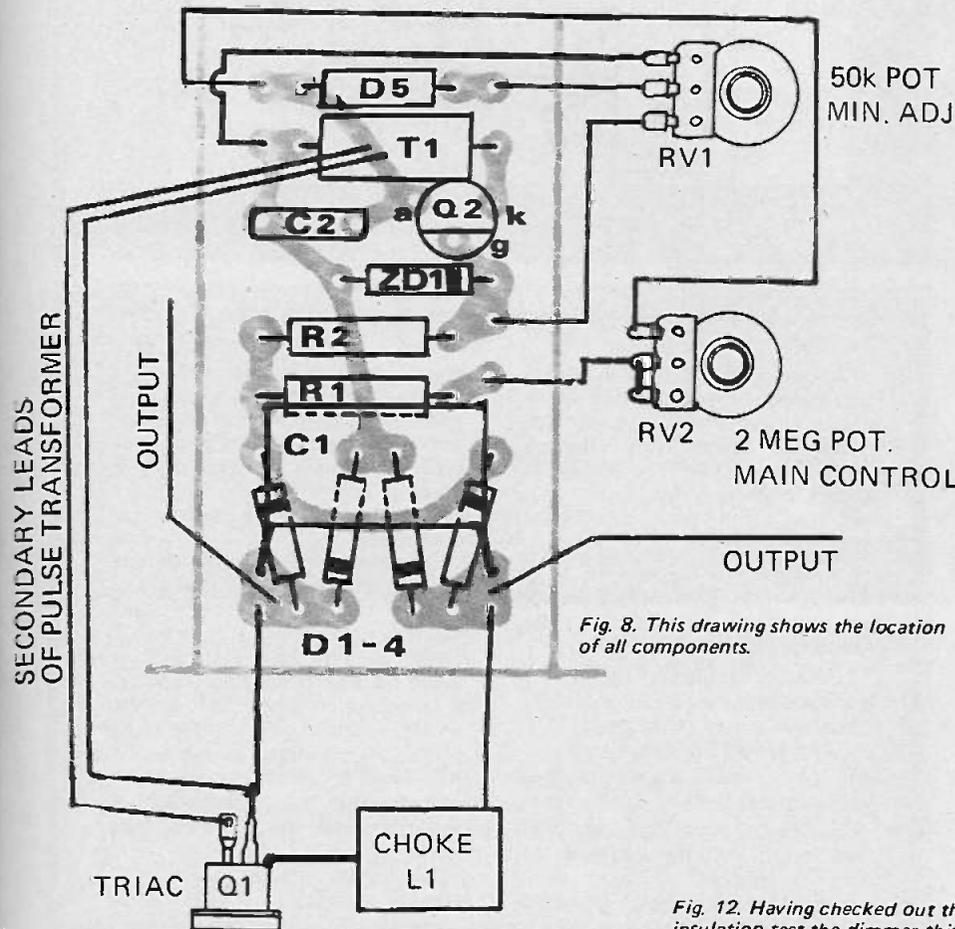

Fig. 8. This drawing shows the location of all components.
5. The components can now be soldered onto the printed circuit board. Locate transistor Q2 so that it is about $\frac{3}{16}$ " off the board and transformer T1 so that it is about $\frac{1}{8}$ " off the board. Capacitor C1 is mounted flat on top of the diodes. Fig. 8 shows the location of all components.